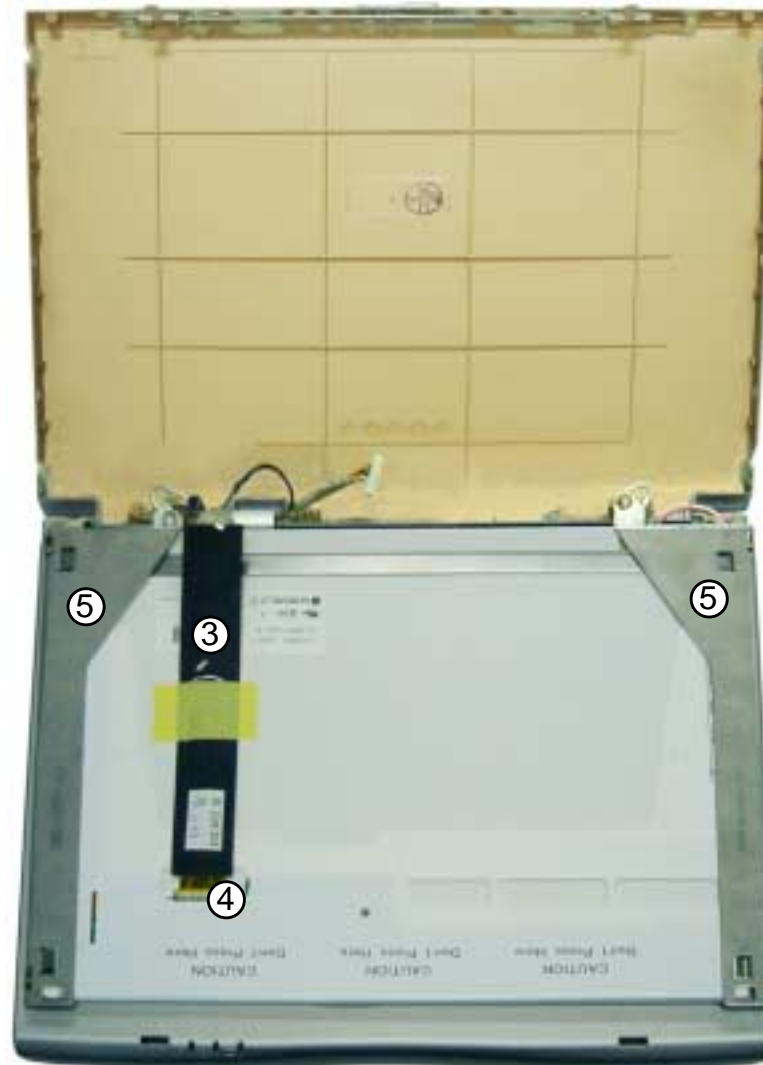

figure 3-28
5. Lift the LCD screen and bracket out of the case and place it atop the keyboard (figure 3-28).